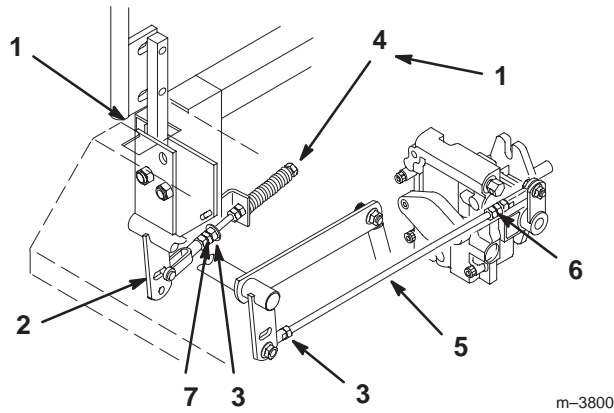

Figure 46
2. Begin with either the left or right motion control lever. Move lever to the neutral (but not locked) position and pull lever back until the clevis pin (on arm below pivot shaft) contacts the end of the slot (just beginning to put pressure on spring) (Fig. 46).
3. Check where lever is relative to notch in console (should be centered allowing lever to pivot outward to the neutral lock position) (Fig. 46).
4. Loosen locknut at ball joint on pump control rod (Fig. 46).
6. Adjust pump rod length by rotating double nuts on rod, in the appropriate direction, until wheel is still or slightly creeps in reverse (Fig. 46).